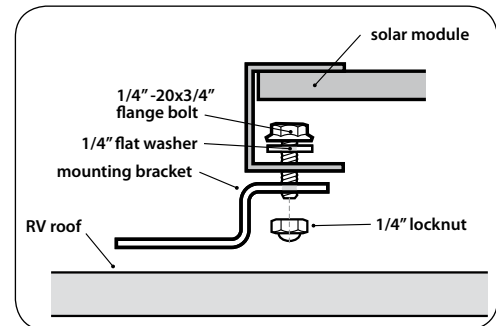
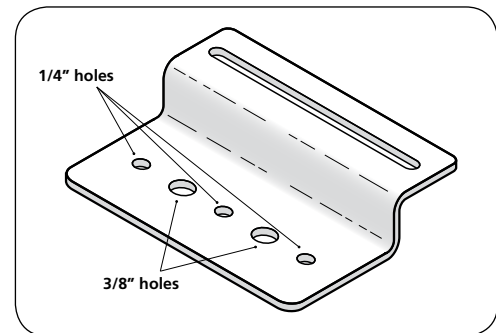

Fig. 7.1. Attaching solar panel to 5-hole mounting bracket.
Fig. 7.2. 5-Hole Mounting Bracket.
2. Fix the mounting brackets (Fig. 7.2) to the frame of the previously positioned solar panel using the slotted opening and the 1/4"-20 x 3/4" Flange Bolt, Nylon Locknut and flat washer (Fig. 7.1).
5. The centre and end holes on the mounting brackets (Fig. 7.2) are sized to accept the 1/4" hardware supplied with the unit. If the use of larger sized hardware is desired, 3/8" holes can be used.